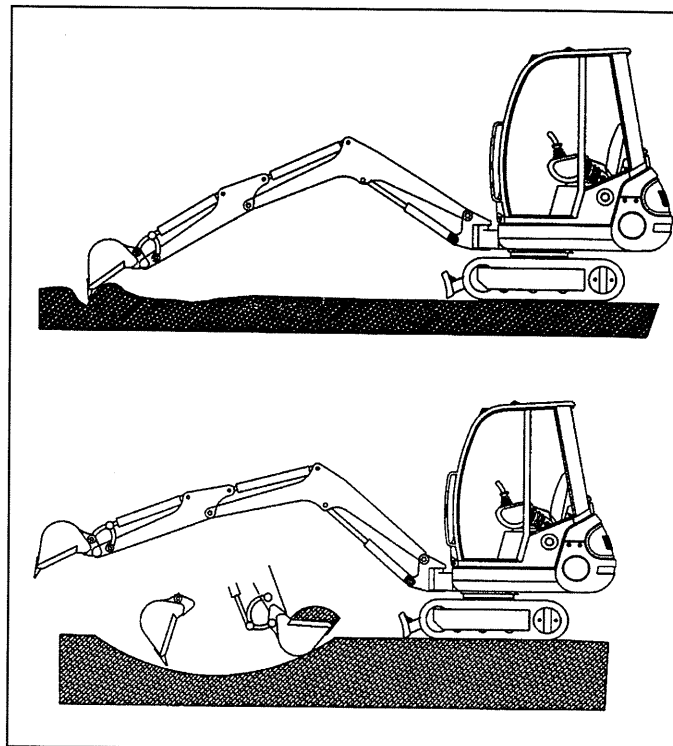

Figure 3-12. Proper Excavating
- To obtain maximum digging performance, avoid fully extending the excavator arm. Excavate using long, flat pulling movements of the arm (Figure 3-12).